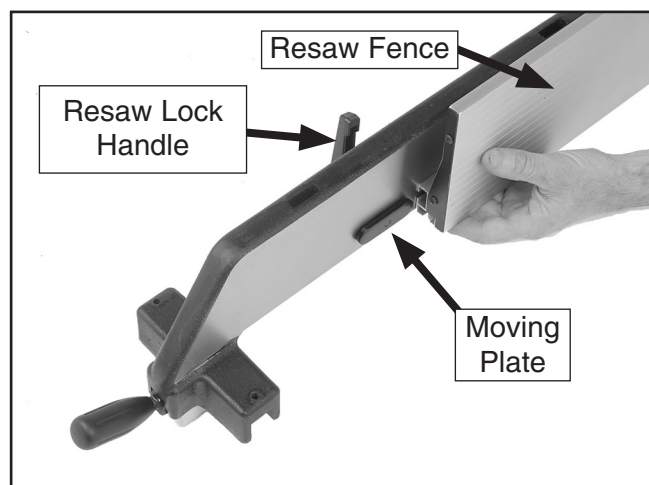

Figure 3. Example of attaching resaw fence to standard fence.
5. Install the resaw fence lock handle (with the 8mm washer and moving plate) onto the fence, then slide the resaw fence over the moving plate as shown in **Figure 3**.